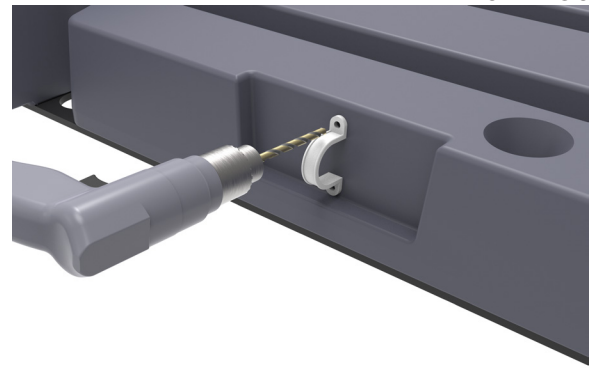

Figure 1
Refer to Figure 1. To assemble the door jamb to the skid, stand two waste tanks on end about four feet apart (as shown). Stand a base skid with the tank space toward the ground and the four holes on the floor side of the base skid up. Position the front assembly on top of the tanks with the bottom of the front assembly resting on the base skid. (You may need to add a 4" x 4" on the tank at the top of the front assembly to level the top with the base skid). Cut the strap holding the door closed. Open the door and install a PC-000104 rivet into the hole where the cut strap went through the door jamb. Match up the four holes in the door jamb with the four holes in the base skid. Fasten the door jamb to the base skid with (4) PC-000174 screws, (4) PC-000123 washers, and (4) PC-000140 nuts using a Phillips cross-head screwdriver and a 7/16" socket wrench. Drive (4) PC-000192 sems lag screws through the two holes on the left and right sides of the front panel into the base skid. **CAUTION: DO NOT OVER-TIGHTEN; TIGHTEN ONLY UNTIL SNUG.** Stand the skid and front assembly upright.